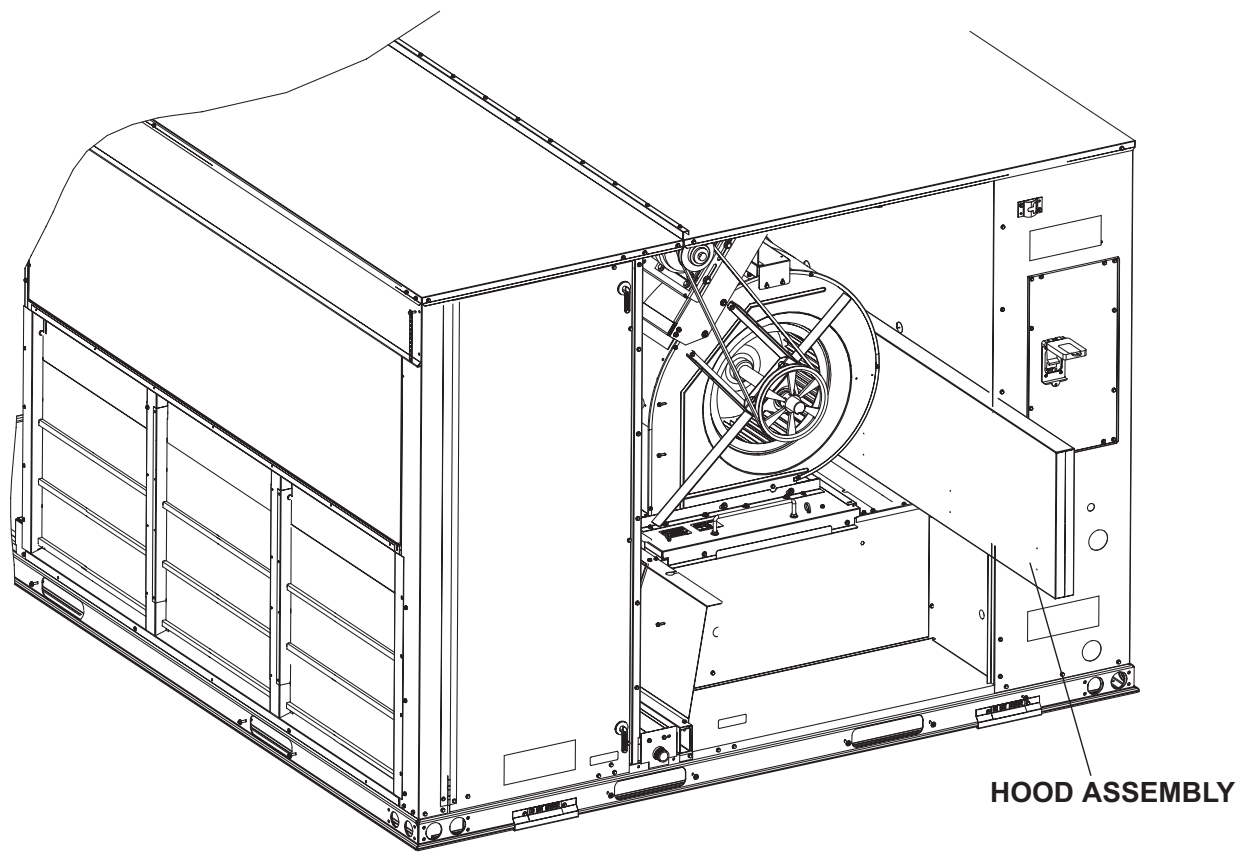

FIGURE 2
**NOTE** - When GED is factory-installed, hood assembly is located on the blower deck behind the blower assembly as shown in FIGURE 2.